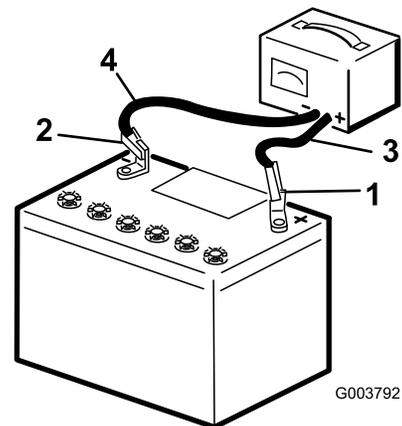

Figure 39
2. Charge the battery at a rate of 3 to 4 A for 4 to 8 hours (Figure 39). Do not overcharge the battery.
3. When the battery is fully charged, unplug the charger from the electrical outlet, then disconnect the charger leads from the battery posts (Figure 39).